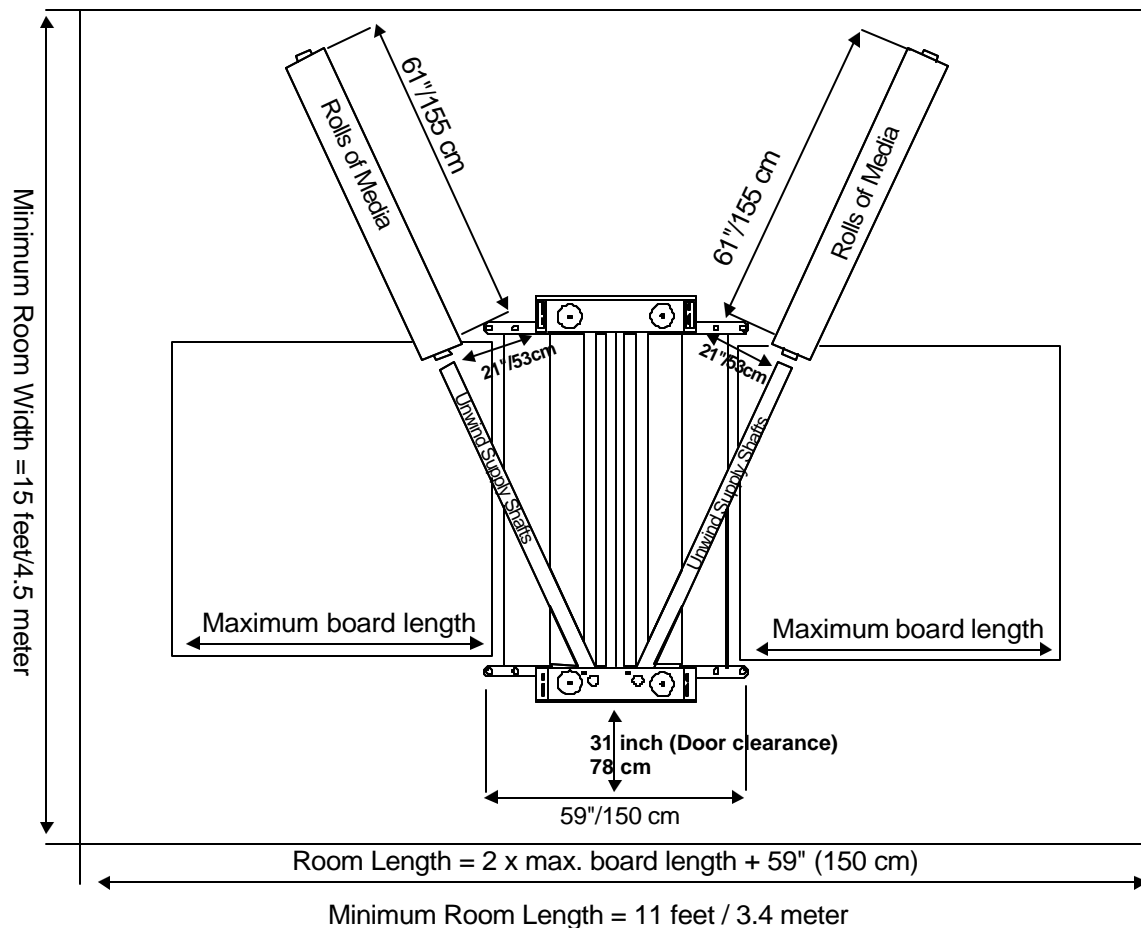

Figure 2. Workspace Area Diagram
- Your laminator has castors to allow for easy moving. Roll the laminator to the location it will be used. (See Workspace Area Diagram – Figure 2).